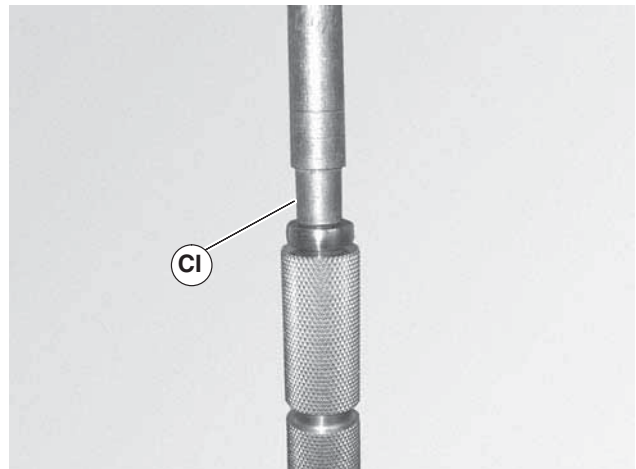

Figure 51
2. Use a bearing installation tool, (Figure 51, item CI), part number 450292, or equivalent and press bearings onto the conveyor pulley and drive pulley.